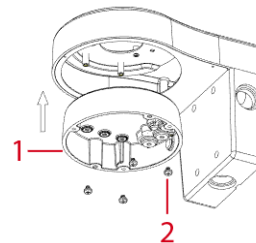

Figure 5
- F. Screw the camera bottom cover (1) (Fig. 5) to the wall mount bracket with the three M4x8mm screws (2) (Fig. 5).